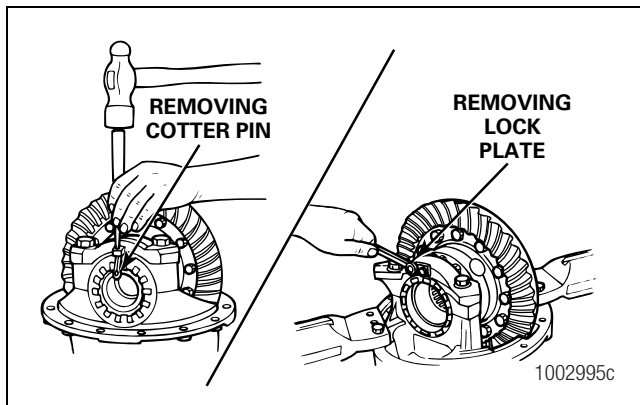

Figure 3.12
5. Remove the capscrews, cotter pins, roll pins or lock plates, if equipped, that hold the bearing adjusting rings in position. Use a small drift and hammer to remove the pins. Each lock plate is held in position by two capscrews. Figure 3.12.